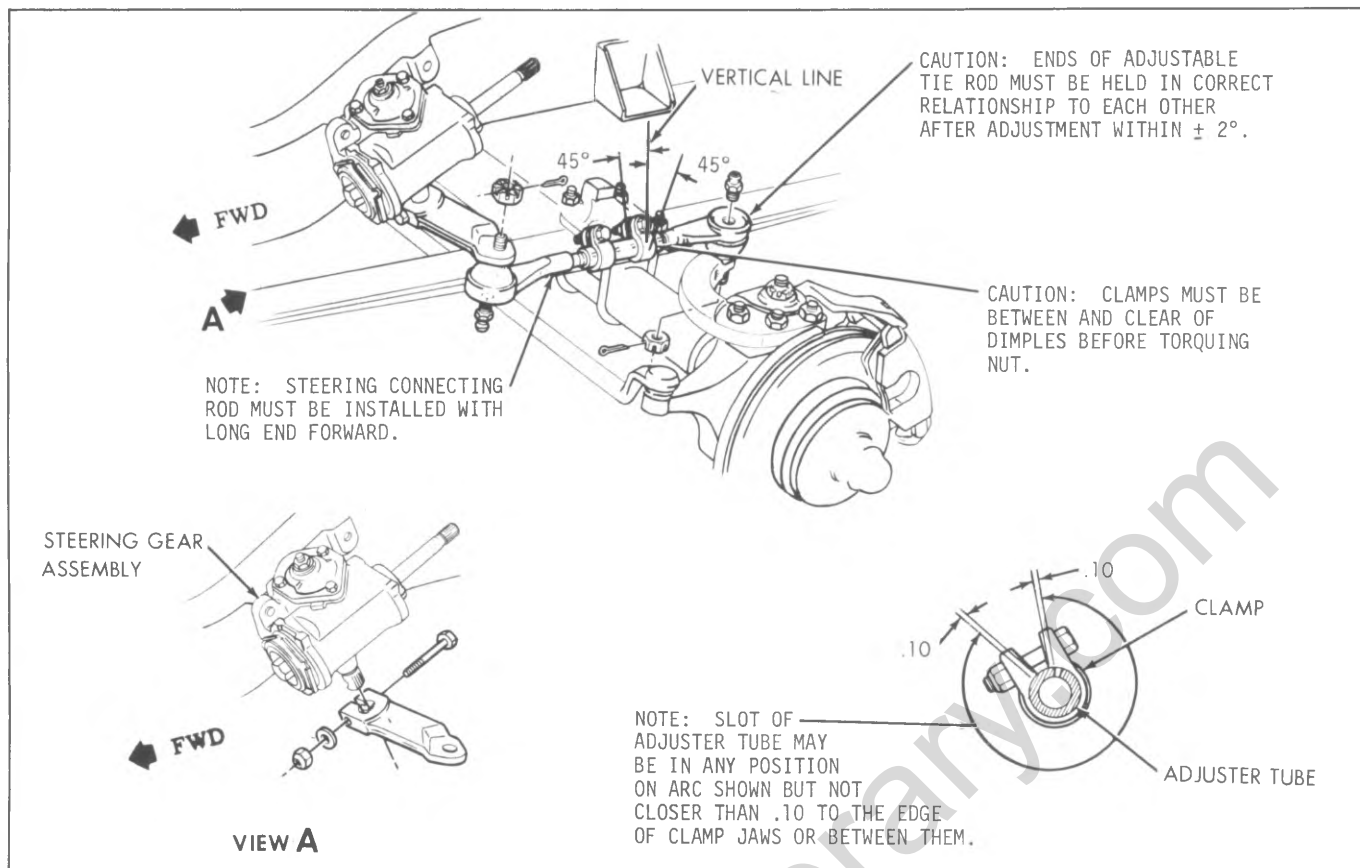

Fig. 3B-109--Adjustable Connecting Rod Assembly-K Series
NOTE: For proper alignment and orientation of connecting rod clamps see figure 3B-109.
4. Mark the relationship of the pitman arm to the pitman shaft. Remove the pitman shaft nut or pitman arm pinch bolt and then remove the pitman arm from the pitman shaft using Puller J-6632 (fig. 3B-50).
Installation (Fig. 3B-110)